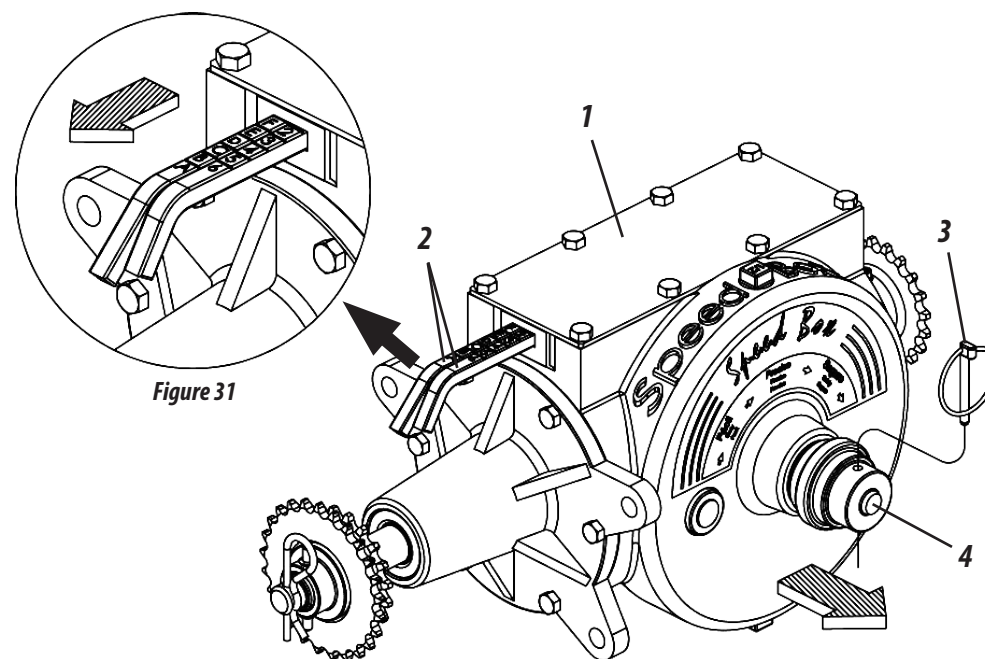

Figure 31
SPEED BOX (FIGURE 31)
- 1- Select the desired amount on the tables and verify the corresponding combinations of the levers (2). **Example:** Position **F2** on the table, indicates that the levers with letters must be in the "**F**" (fertilizer) position and the lever with numbers must be in position "**2**", as shown in figure 31.
- 2- Remove the latch (3) to move the levers, pull the knob (4), and then adjust the levers as stated in the above example. When the combination is finished, return the knob (4) and then replace the latch (3).
SEED SPREADING ADJUSTMENT (FIGURE 31)